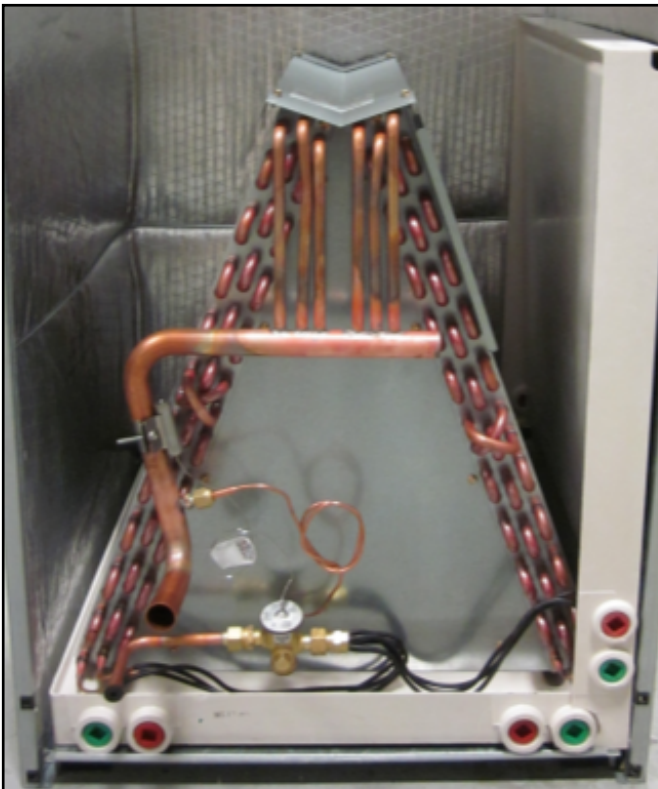

Figure 8
6. Slide coil assembly, bottom drain pan and horizontal drain pan as one unit back into the air handler. See figure 8.